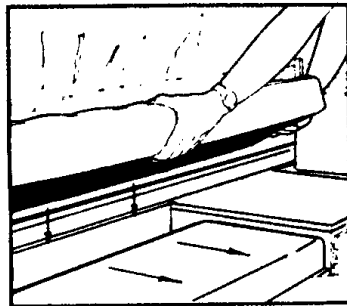

FIG. 14
35. Lift the backrest off the dinette table and put into position by sliding the seat cushion inboard. Repeat this step for the other backrest. (See Figure 14.)